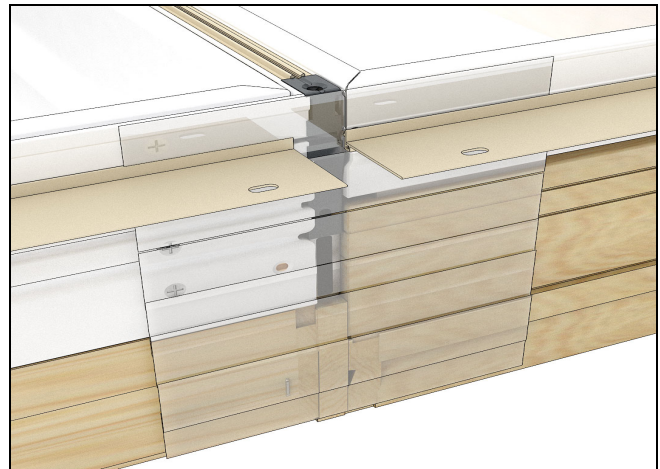

Figure 61
46. Place a piece of clear vinyl tape (or similar) on the frame covering each end plug and ensure tape overhangs at least 2" on each side of plug. See Figure 61.